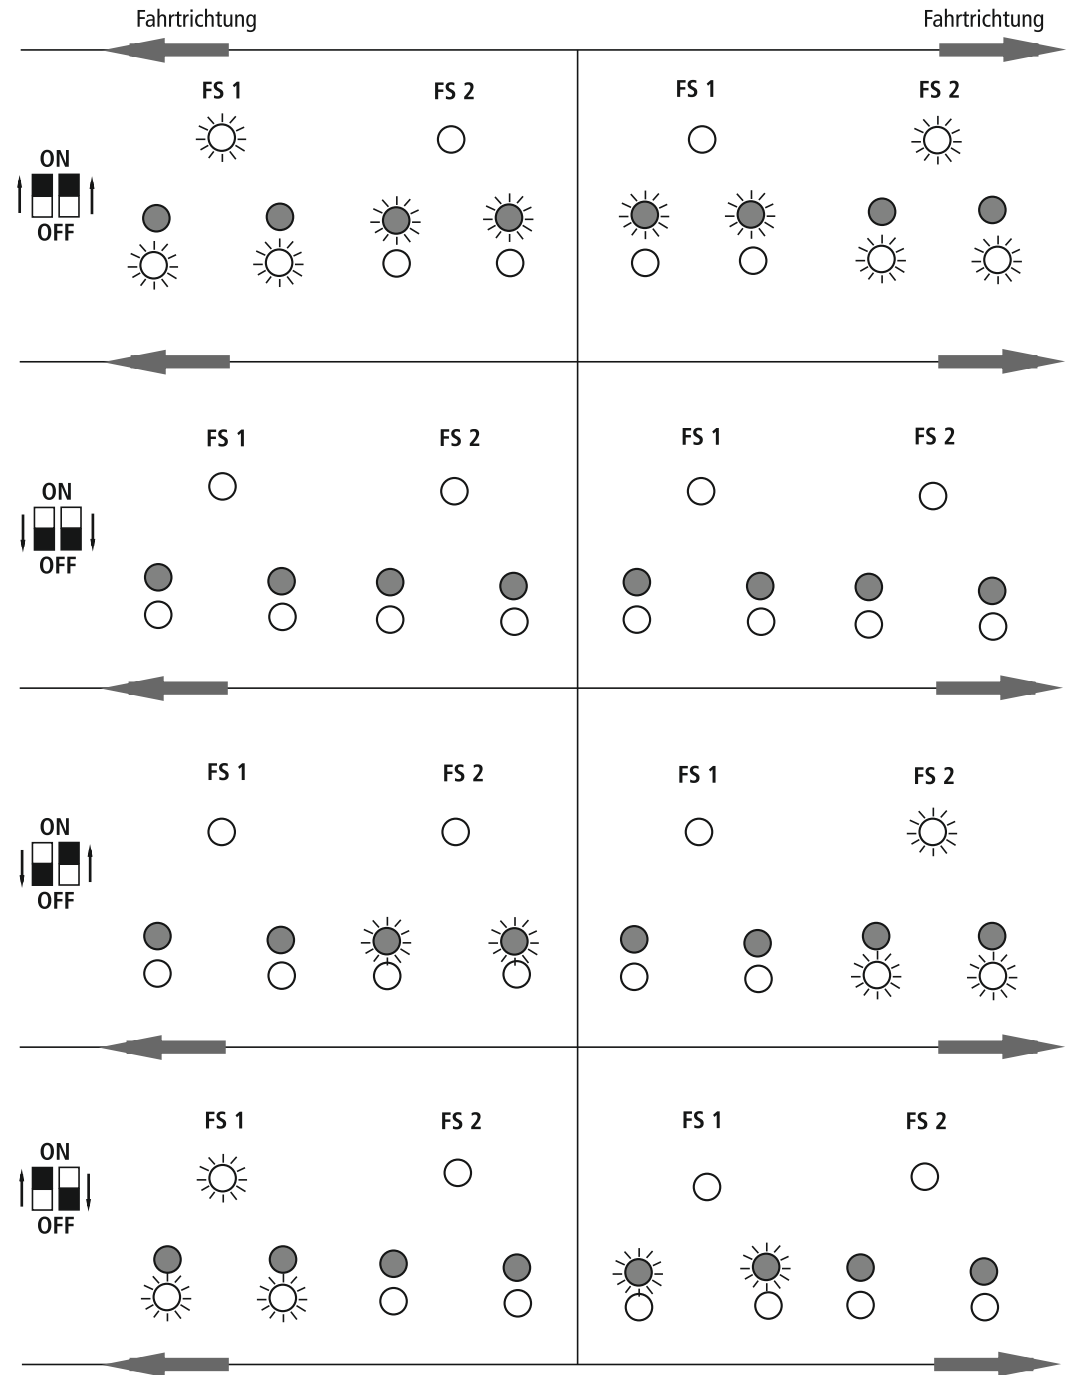

Fig. 5
3. Change of traction tyre: Remove the gear cover (fig. 5). Take out **wheel set** and remove **traction tyre** using a pin or a fine screwdriver (fig. 5). When pressing on the new traction tyre please **avoid twisting it**.